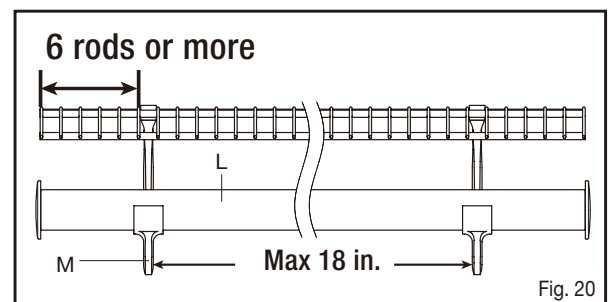

Fig. 20
- Count 6 rods or more from one side of the wire shelf and install closet rod brackets as shown. Maximum spacing between closet rod brackets is 18 in. for this system (see Fig. 20).